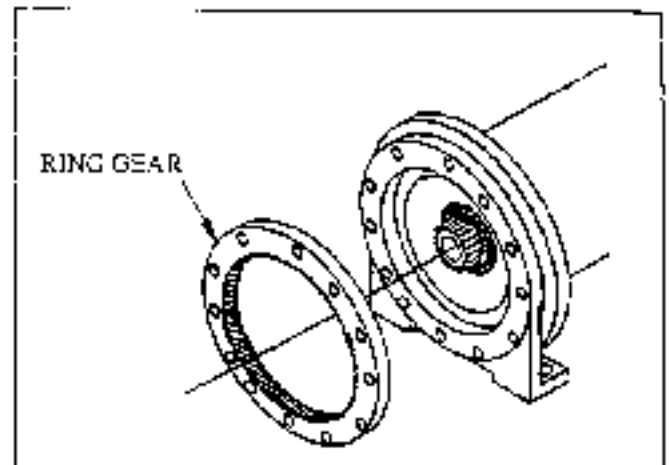

Figure 19
- (18) With a prybar, remove the ring gear as shown in Figure 19.